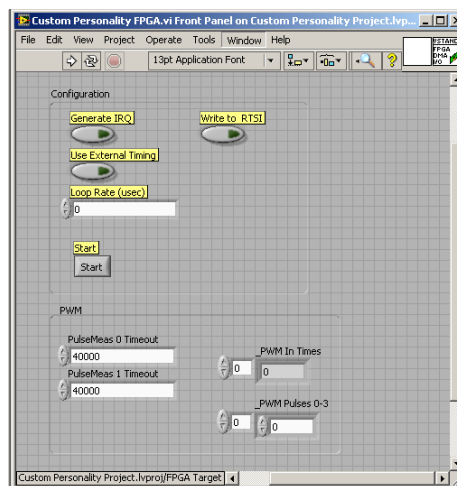

Figure A.10: Create Labview FPGA target and XML - 10
9. The project menu will now appear and should look something like Figure A.10. Select the LabVIEW VI as demonstrated our is called Custom Personality FPGA.vi